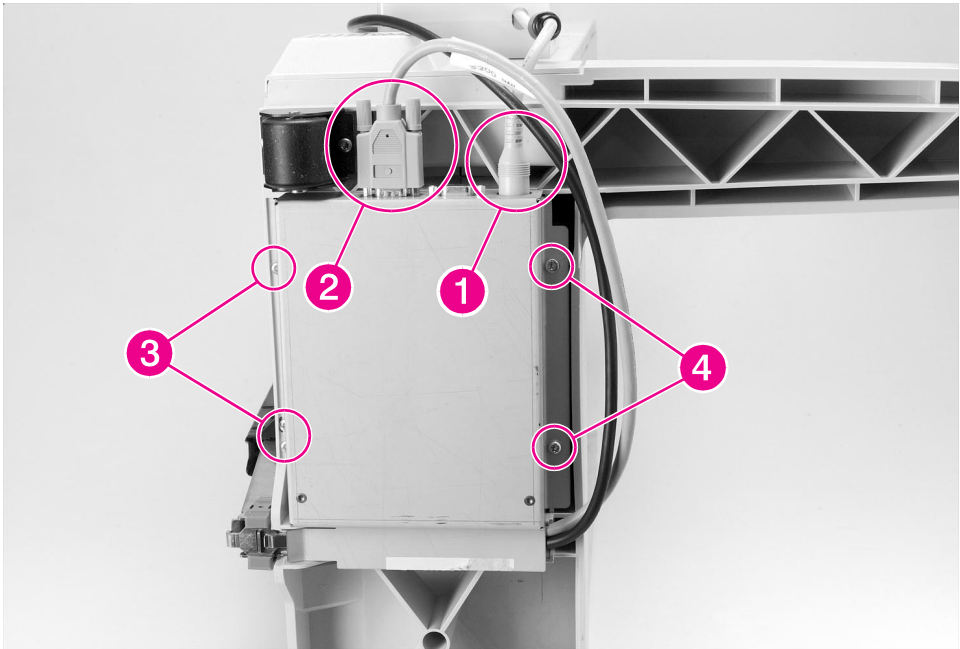

Figure 6-165 8-bin Mailbox Controller PCA (1 of 2)
- 3 Release the Controller PCA Assembly from the bottom of the 8-bin Mailbox frame (see figure 6-165 on page 350, steps 1 through 7).
- 2** Reinstall the 8-bin Mailbox Controller PCA Assembly (see Figure 6-165).
- 2 Locate the power cable that runs from the 8-bin Mailbox Power Supply down to the 8-bin Mailbox Controller PCA, and disconnect the cable from the Controller PCA (Figure 6-165, callout 1).
- 1 Disconnect the power cable and the C-link cable from the 8-bin Mailbox Controller PCA (see Figure 6-165, callouts 1 and 2).